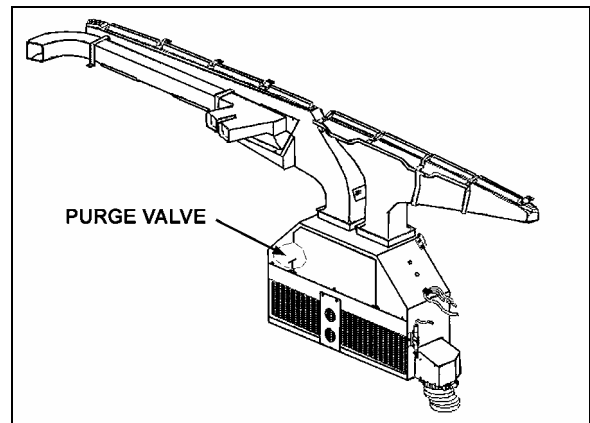

FIGURE 52: DRIVER'S UNIT AIR MIXING BOX 22171PV
4. From inside of vehicle, remove the grill and the access panels. Open the purge valve located inside the driver's unit (Figure 52) to ensure an efficient draining.
Whenever the heating system has been drained and refilled, or the system has run low on coolant and coolant has been added, it is necessary to bleed air from heating system. Locate the purge valve illustrated in Figure 52